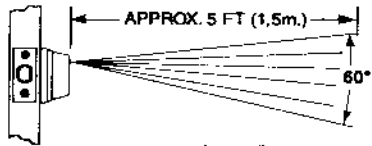

Figure 5
2. The infrared sensor (lighted keyway) only operates in dark environments. The system operates from 3 to 5 feet away by moving directly in front of the deadbolt. See Figure 5. Observe the ring around the keyway illuminate as it is approached.